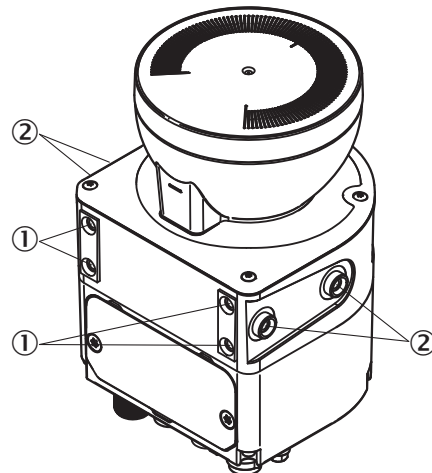

Figure 48: Mounting the safety laser scanner directly
- ① Rear M5 threaded hole
- ② Side M5 threaded hole
- ▶ Use either the rear or the side M5 threaded holes for direct mounting, see figure 48, page 71.